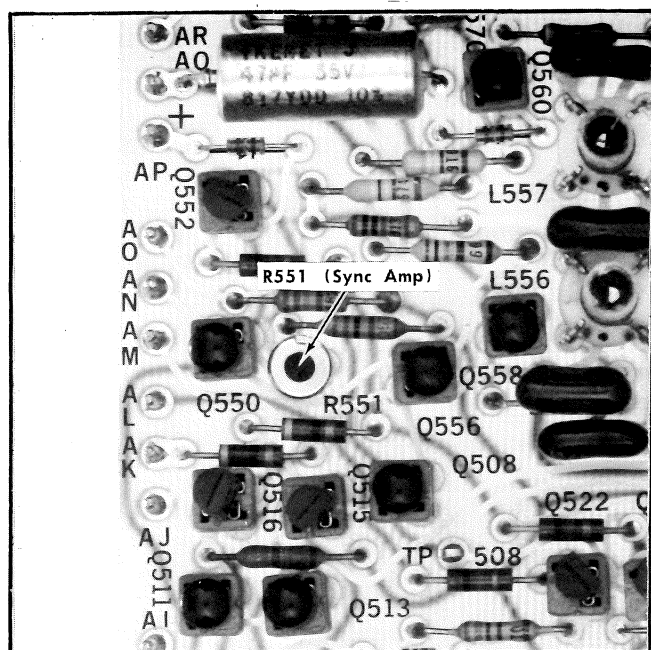

Fig. 5-10. Staircase board adjustment location.
g. ADJUST—Sync Amplifier control, R551, (see Fig. 5-10) until the sync tip of the upper display just aligns with the blanking level of the lower display.